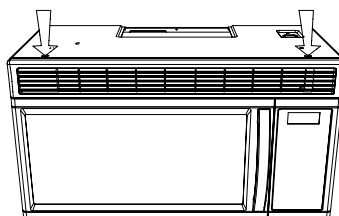

FIGURE 3
2. Remove the top grill by taking out the 2 screws that hold it in place. (See Figures 3.)